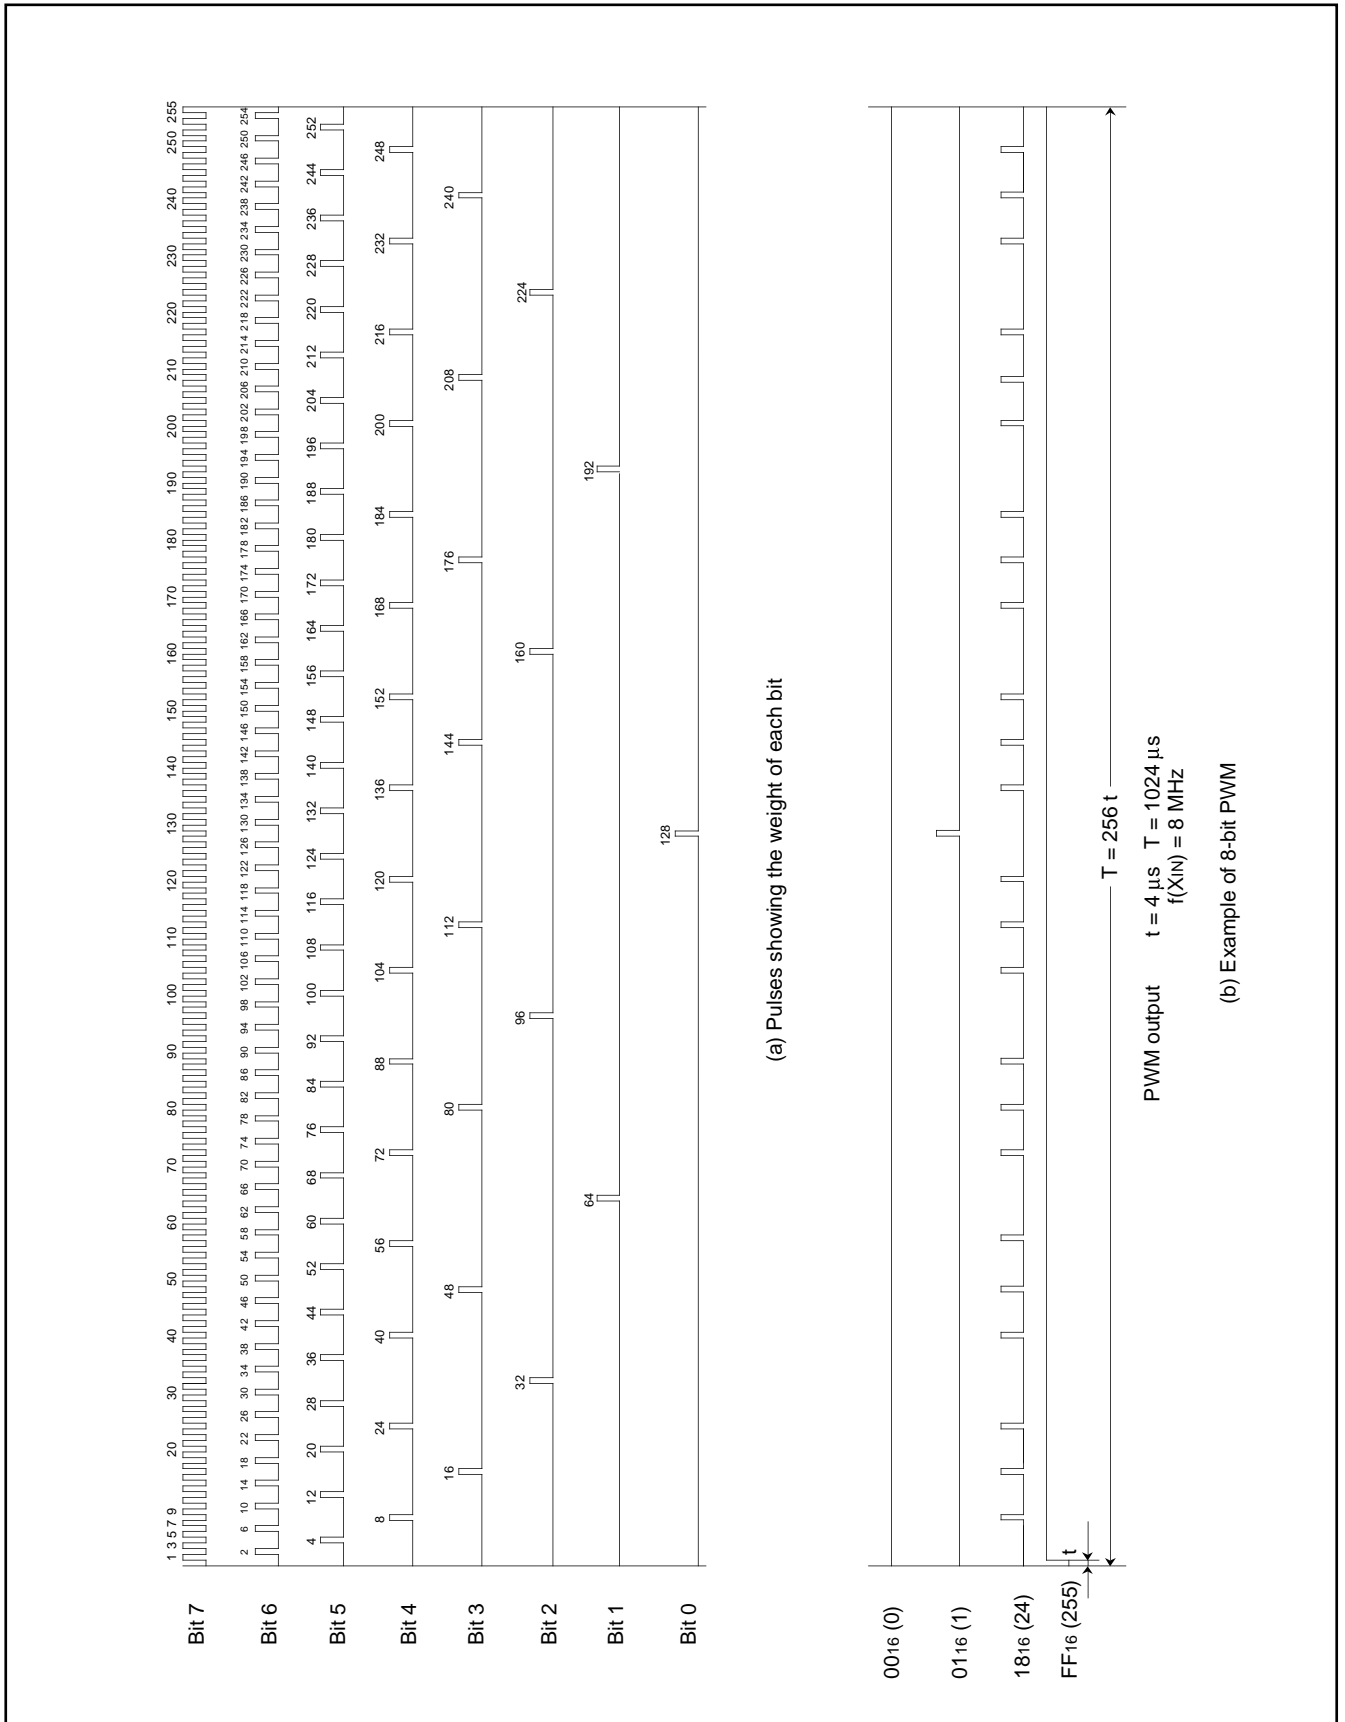

Fig. 24. 8-bit PWM timing
Figure 24 shows the 8-bit PWM timing. One cycle (T) is composed of 256 (2^8) segments. The 8 kinds of pulses relative to the weight of each bit (bits 0 to 7) are output inside the circuit during 1 cycle. Refer to Figure 24 (a). The 8-bit PWM outputs waveform which is the logical sum (OR) of pulses corresponding to the contents of bits 0 to 7 of the 8-bit PWM register. Several examples are shown in Figure 24 (b). 256 kinds of output ("H" level area: $0/256$ to $255/256$) are selected by changing the contents of the PWM register. A length of entirely "H" output cannot be output, i.e. $256/256$.
(4) Operating of 14-bit PWM